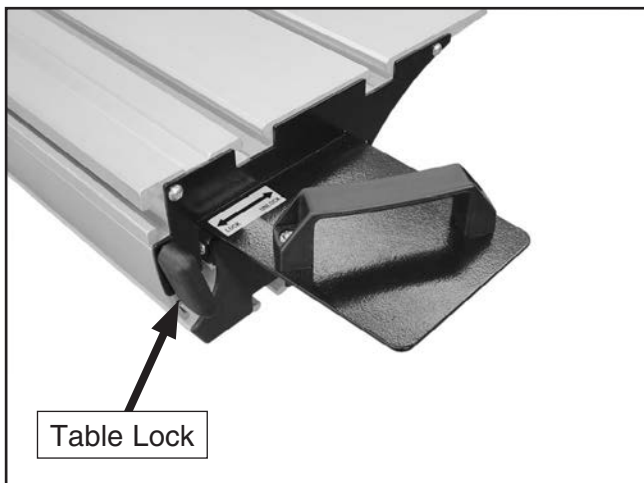

Figure 85. Sliding table lock.
2. Lock the sliding table into a stationary position (see **Figure 85**).